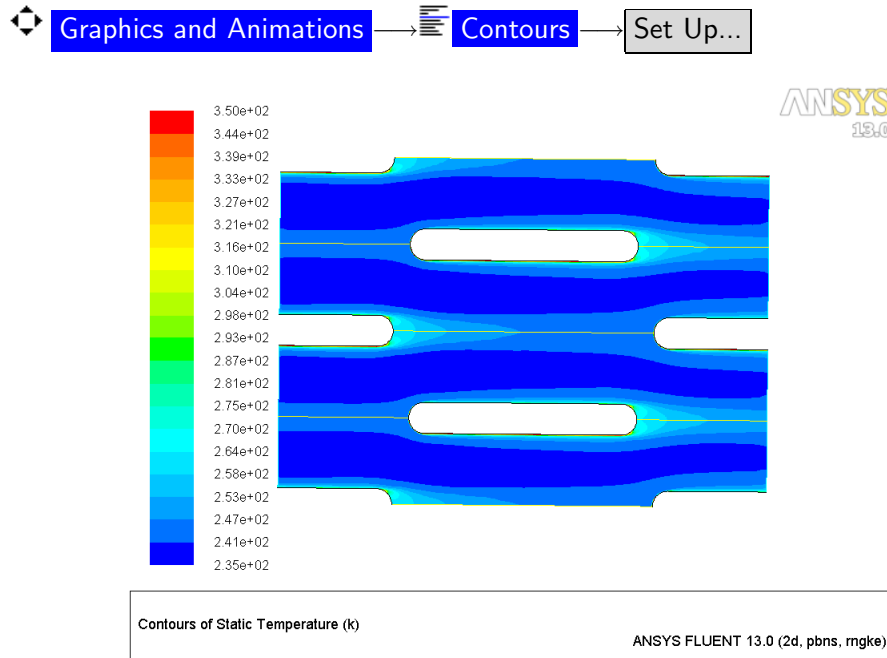

Figure 10: Contours of Temperature
5. Display filled contours of temperature (Figure 10).